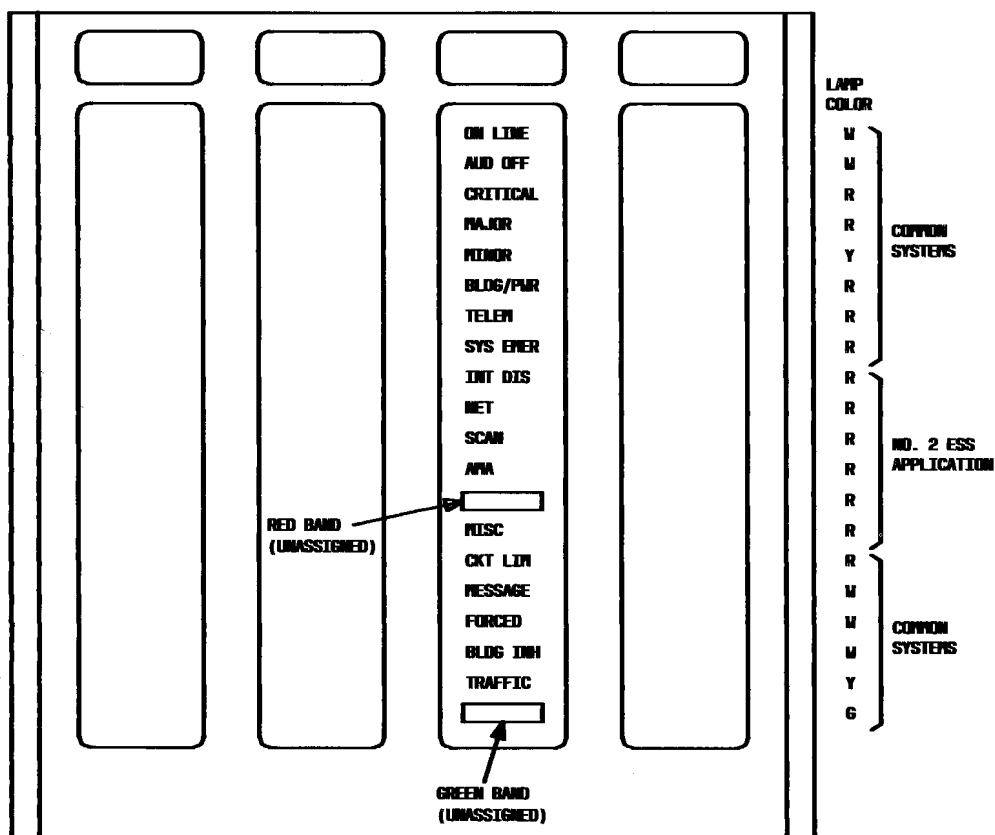

Fig. 2—Critical Indicator Panel
2.09 The critical indicator panel (Fig. 2) displays the real time status information of the various central offices being monitored by the SCCS. It is comprised of 4 panels (one for each CO) 6 inches